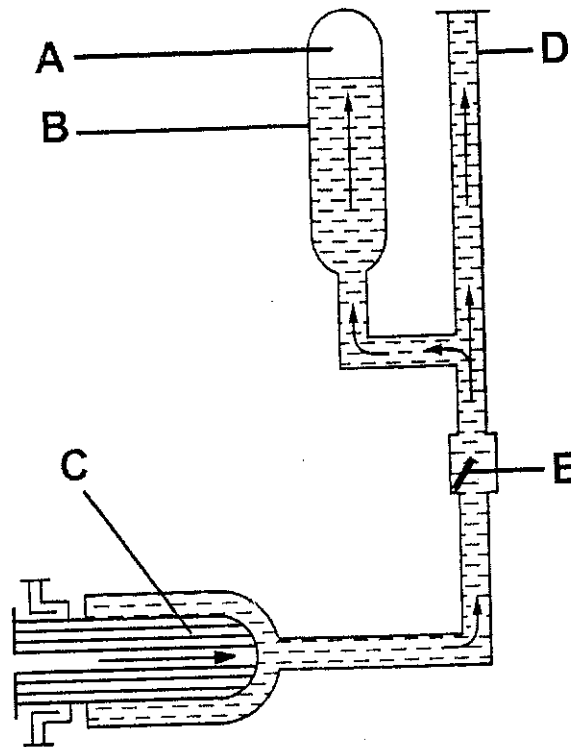

FIGURE 3
4.4 Refer to FIGURE 3 of the water unit and answer the following questions: